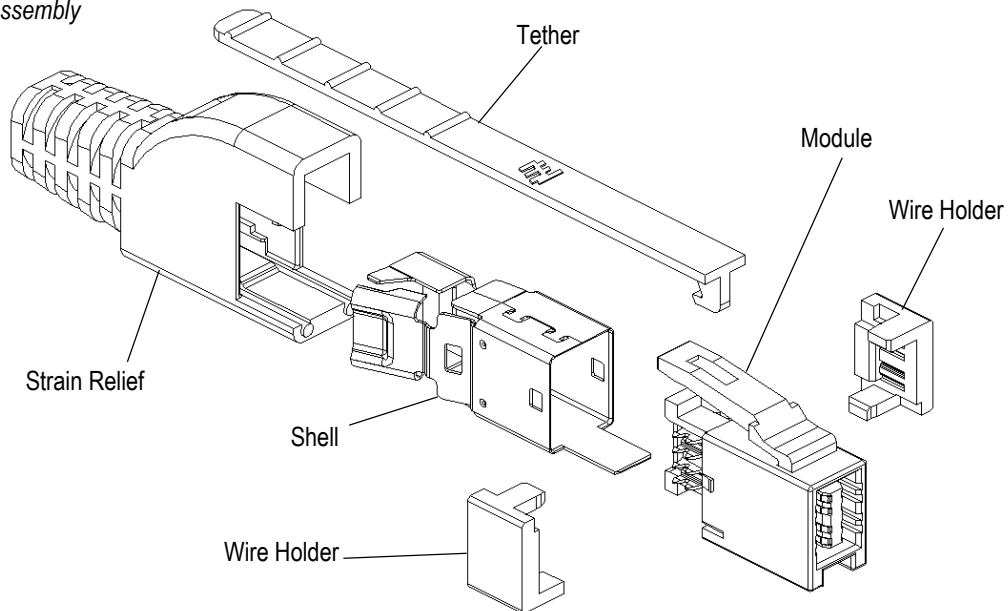

Figure 1
When corresponding with TE Connectivity Personnel, use the terminology provided in this specification to facilitate your inquiries for information. Basic terms and features of this product are provided in Figure 1.
- Added shielded version to Figure 1